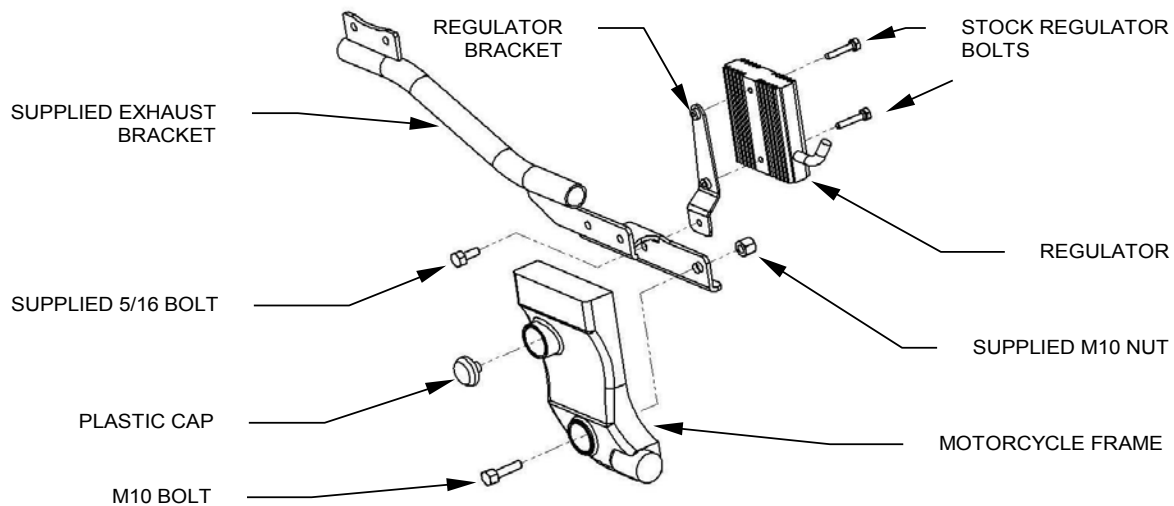

FIGURE 1
1. Remove your stock exhaust system and stock exhaust mount. Remove regulator from stock exhaust bracket and save the bolts. Make sure to leave the wiring harness connected. Mount the regulator to the supplied regulator bracket as shown in Figure 1.
3. Remove the exhaust mount bracket from the box and mount to the inside of the frame using the 10 mm bolt and nut as shown in (Figure 1), do not tighten completely at this time. Bolt the regulator assembly to the exhaust bar mount bracket using the supplied 5/16" bolt, (see Figure 1.)